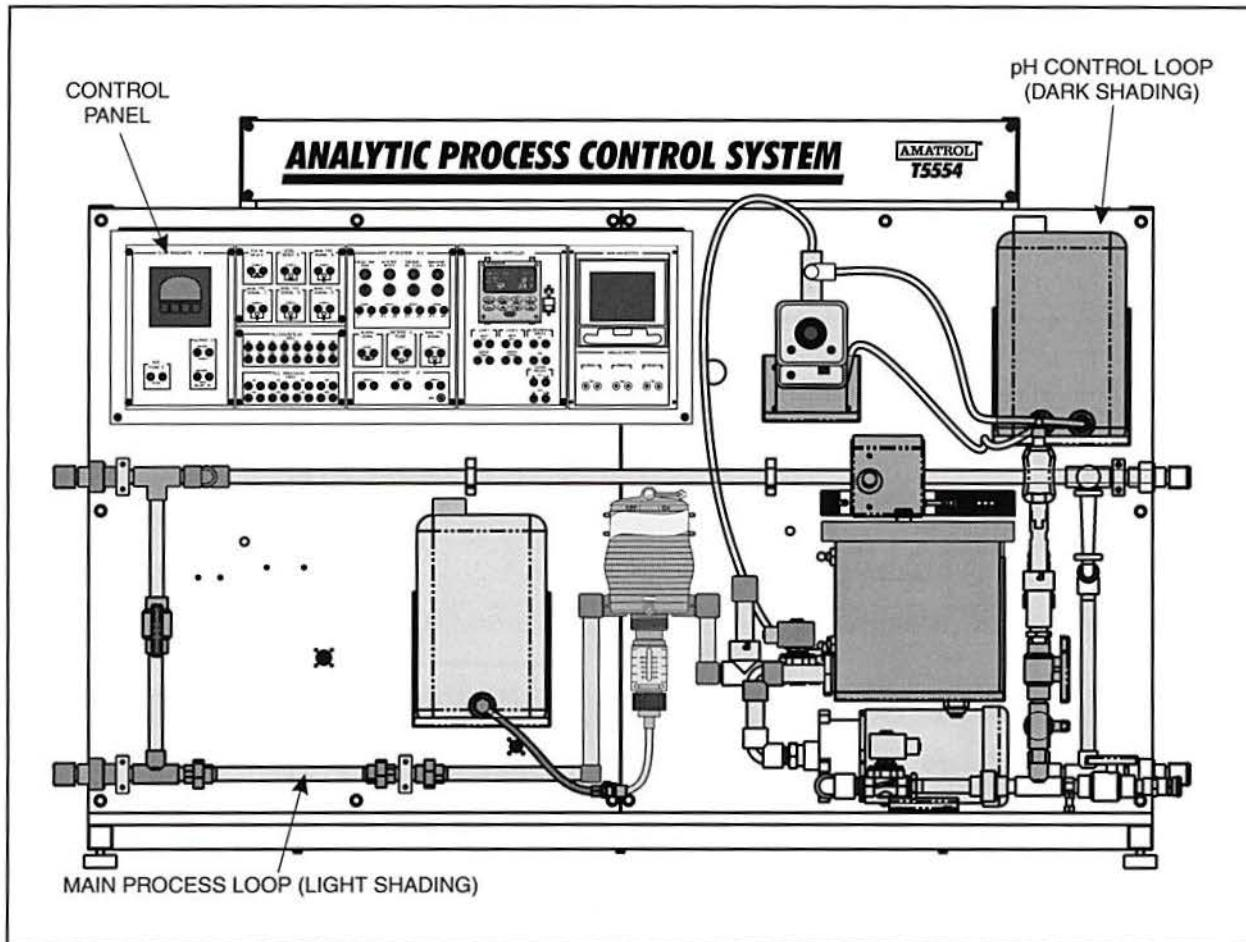

Figure 22. Major Sections of the T5554 Analytical Process Control System
- 2. Locate the major sections of the T5554, as shown in figure 22.
- Locate the **Operator Interface Panel**, identified in figure 22.